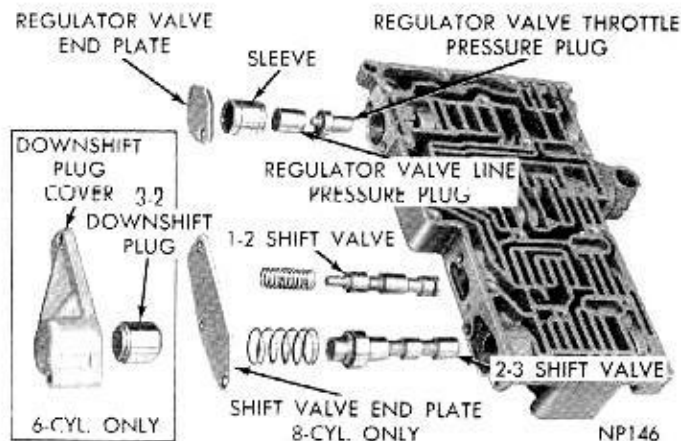

Fig. 42—Valve Body—Shift Valve Side—Disassembled
(15) Remove shift valve end plate (Fig. 42) and slide out the two springs and valves.
(4) Install 1-2 and 2-3 shift valves and springs (Fig. 42). Install shift valve end plate and tighten the three retaining screws to 28 inch-pounds.
(5) Install regulator valve throttle pressure plug, sleeve, and line pressure plug (Fig. 42). Install regulator valve end plate and tighten the two retaining screws to 28 inch-pounds.